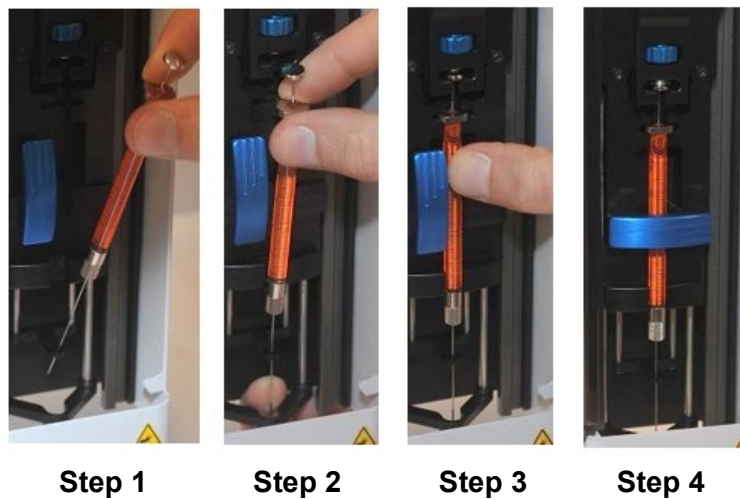

Figure 64: Syringe Placement
1. Take the new syringe and guide the needle through the needle support (**Figure 64, Step 1**).
2. Guide the needle carefully through the needle guide (**Figure 64, Step 2**).
3. Place the syringe in the syringe holder and the plunger in the plunger holder (**Figure 64, Step 3**).
4. Lock the syringe lock (rotating clockwise) (**Figure 64, Step 4**).